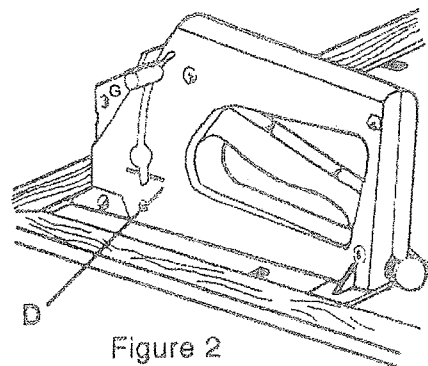

Figure 2
2. Insert the points into the slot in the magazine (C) and release the follower knob so it can apply pressure to the stack of points. Figure 2.
3. Reload points when the follower knob reaches the RELOAD position (D). There are 100 points per pack.